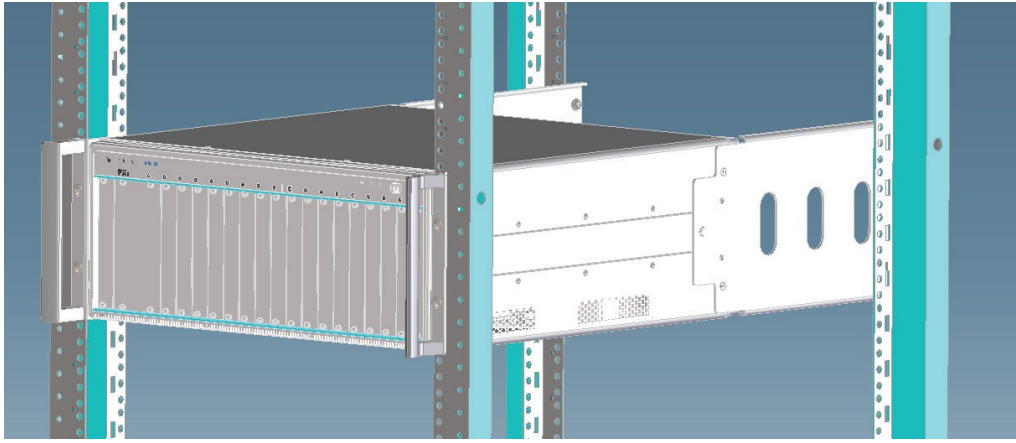

Figure 5. M9018B and M9019A chassis suspended in a rack using the Y1215C.
- Y1215C Flush mount rack kit (Figure 5): Complete kit including rack flanges, handles, and attachment hardware. The kit suspends the chassis in a Keysight rack using only 4U of rack space. Rack rails may be needed in a non-Keysight rack.